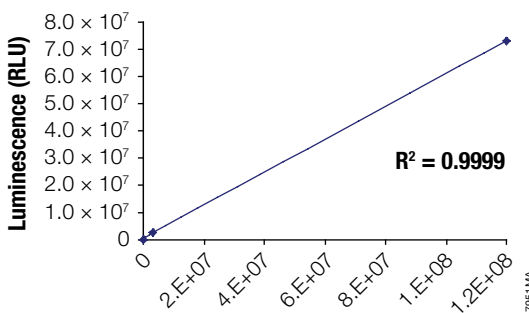

Figure 35. Calculating R^2 value.
17. Add a linear trendline to the graph. The R^2 value generated should be ≥ 0.9800 (Figure 35). If the results are < 0.9800 contact Promega Technical Services for assistance.